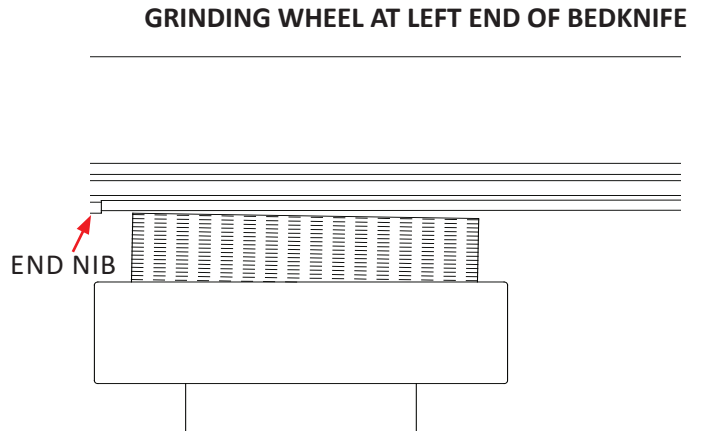

FIG. 48
1. Move the grinding head to the left end of the bedknife. Now adjust the carriage infeed handwheel until the wheel *barely* touches the bedknife inside the unworn end nib. See FIG. 48.